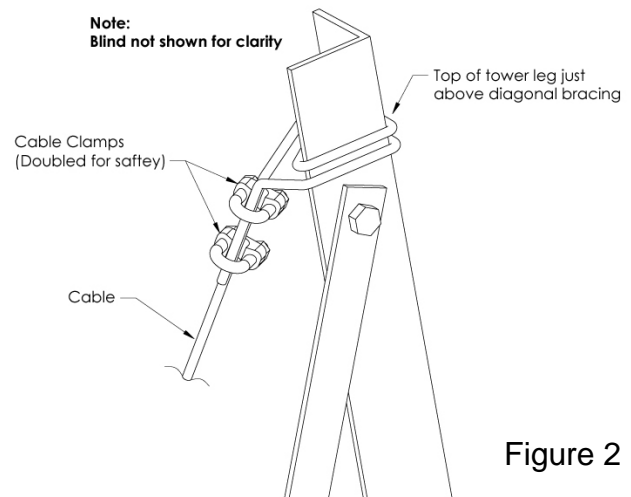

Figure 2
7. Attach the cables as shown, one from each O-ring to the opposite upper corner of the tower (Figure 2). The cables should criss-cross.